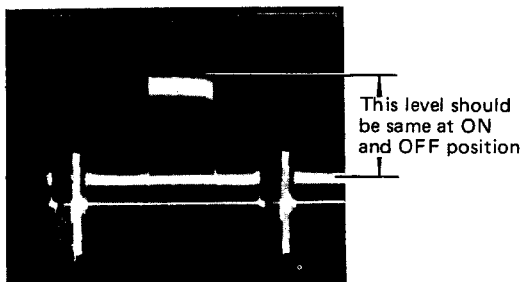

Fig. 5-6-20
- o Set SW3 (DETAIL ON/OFF SWITCH) on the Process board to ON position and adjust VR16 (PULSE MIX) so that the pedestal level is the same as the noted level. (Fig. 5-6-20)